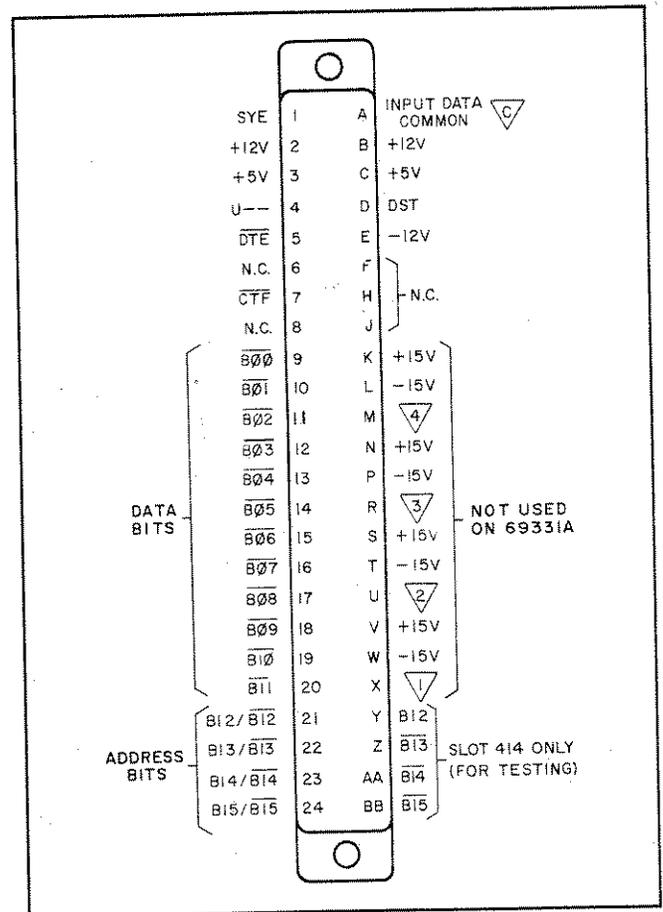

Figure 3-1. Multiprogrammer 400 Series Slot Connector
3-2 The TTL output card is controlled by the multiprogrammer unit in which it is installed. All dc operating power, address and data bits, and control signals are supplied to the output card through multiprogrammer main frame connectors in slots 400 through 414. Figure 3-1 illustrates the signals present on all multiprogrammer 400-series connectors.
3-11 An output card is selected to receive new data when its associated address bits (B12/B12 through B15/B15) and a unit select line U-- are all HI. Although both the true and complemented forms of the address bits are represented on Figure 3-1 (e. g. B12 and B12) only one of the two states is present on each of the four address gate lines when the card is installed in a multiprogrammer slot. For example, if the output card is installed in slot 405, then bits B12 (1), B13 (2), B14 (4), and B15 (8) will